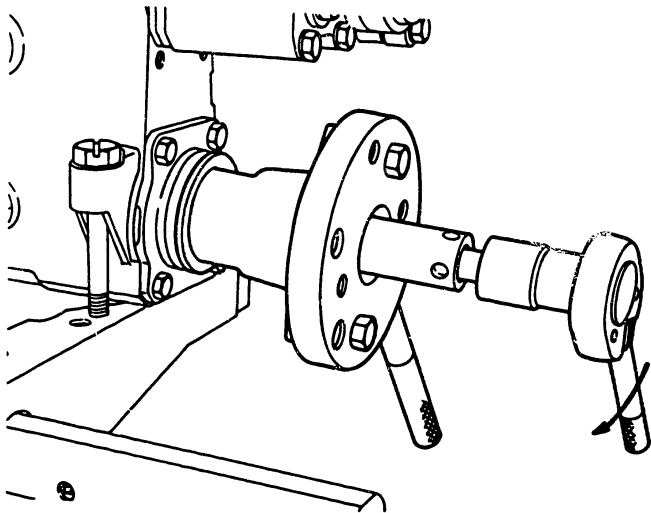

Fig. 17 Removal of pump side coupling
2. Remove the feed pump and pump side coupling. (Fig. 17)